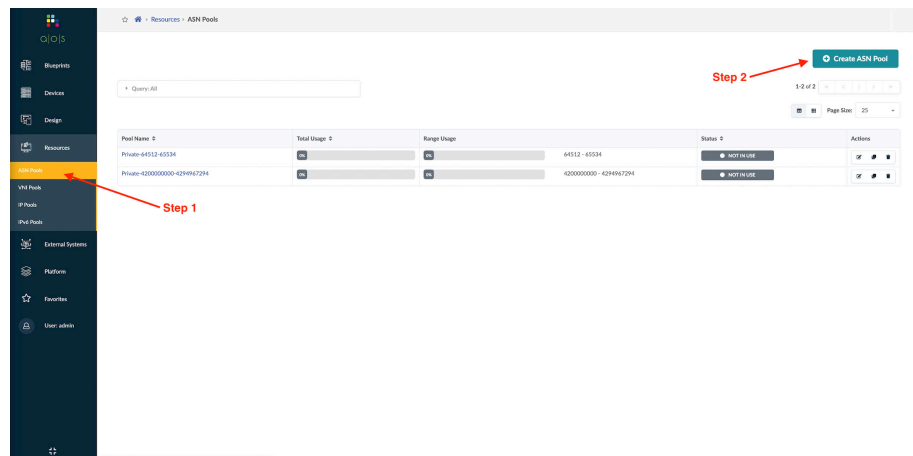

Figure 2.22 *Creating ASN Resource Pool*
Step 1: Go to Resources > ASN Pools. See Figure 2.22.